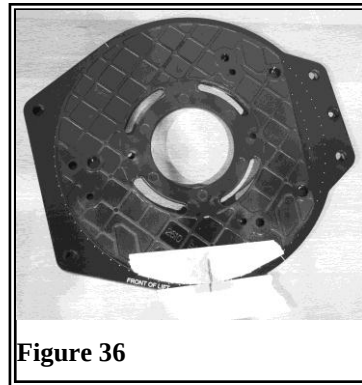

Figure 36
4. Centre the router sub base on the blank plate, aligning the two marks made in step 1. (Figure 36) and centre the sub base to the engraved rings on the blank plate.